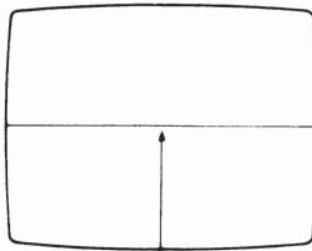

Figure 13
4. Turn the Screen control clockwise slowly, until any one of the R.G. or B lines just becomes visible. (See figure 13.)